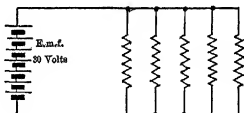

FIG. 129. Storage battery supplying current to several branches in parallel.
**Prob. 73-6.** Suppose in Fig. 129, each of the resistors has a resistance of 5 ohms and the internal resistance of the battery is 10 ohms. What current flows in each resistor?